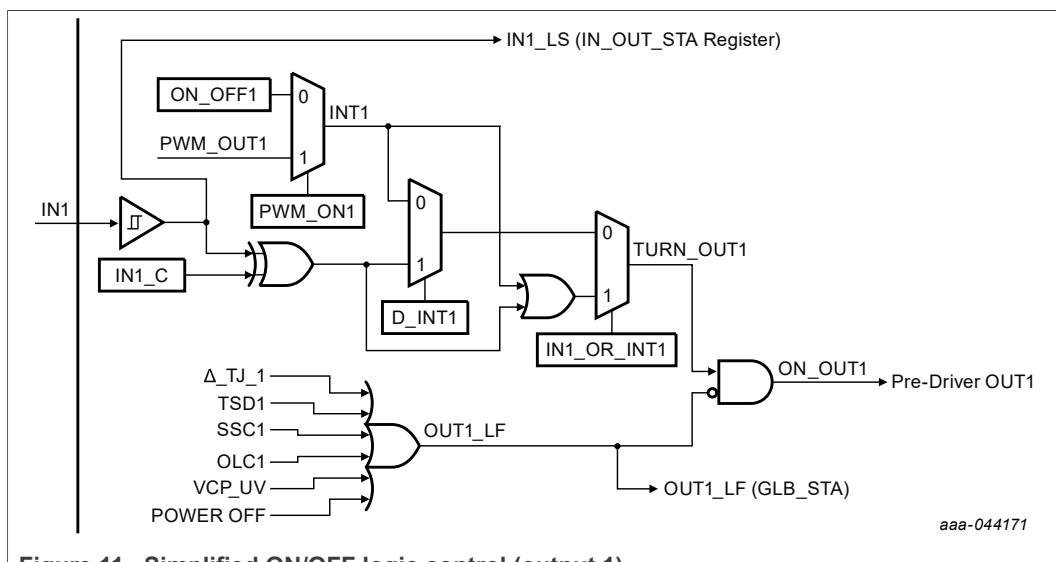

Figure 11. Simplified ON/OFF logic control (output 1)
**OR logic with SPI control:** Bits IN\_CTRL2[7:4] enable an OR logic with internal INTx logic signal from ON / OFF SPI control or PWM module; see Figure 11.